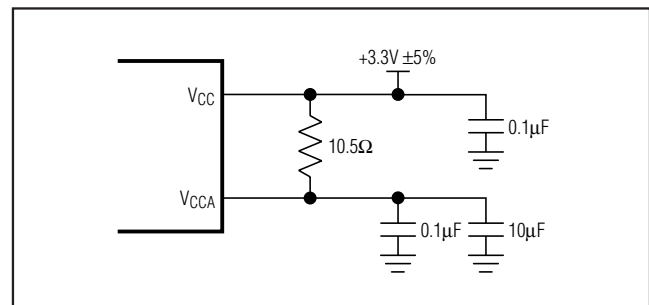

Figure 2. Analog Supply Filtering
- Note 1:** A series resistor of up to 10.5Ω is allowed between V_{CC} and V_{CCA} for filtering supply noise when system power-supply tolerance is $V_{CC} = 3.3V \pm 5\%$. See Figure 2.
The MAX3624 is a mixed analog/digital IC. The PLL contains analog circuitry susceptible to random noise. In addition to excellent on-chip power-supply noise rejection, the MAX3624 provides a separate power-supply pin, V_{CCA} , for the VCO circuitry. Figure 2 illustrates the recommended power-supply filter network for V_{CCA} . The purpose of this design technique is to ensure clean input power supply to the VCO circuitry and to improve the overall immunity to power-supply noise. This network requires that the power supply is $+3.3V \pm 5\%$. Decoupling capacitors should be used on all other supply pins for best performance.